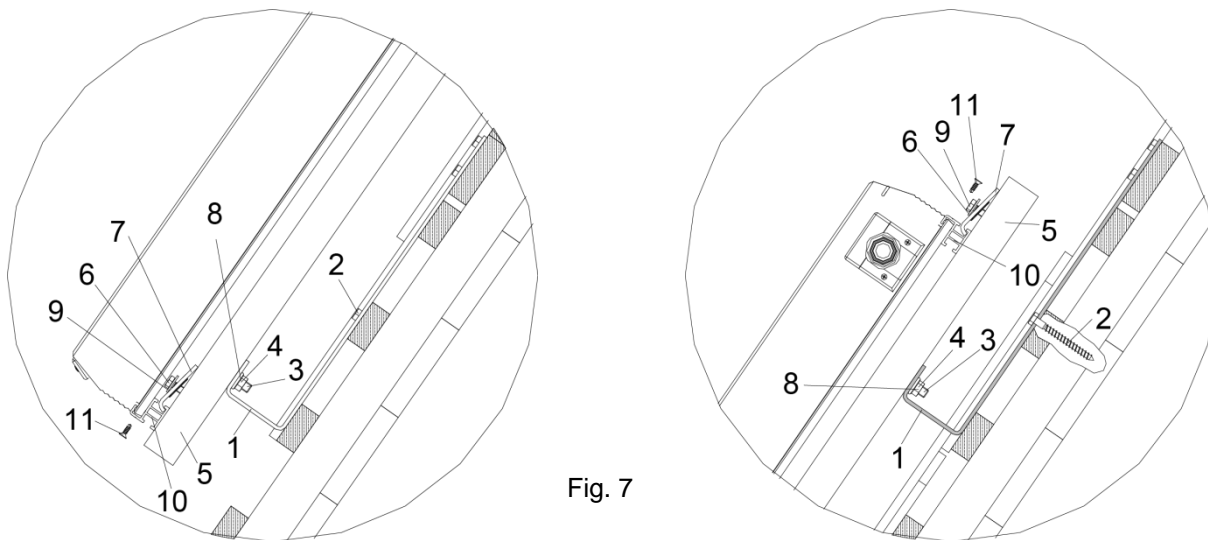

Fig. 7
- Secure that each collector is fastened with drill screws (11) on the bottom and top via the provided drillings in the support profile (Fig. 7).